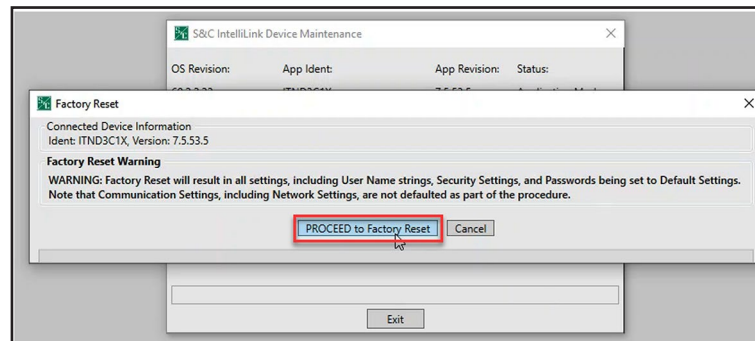

Figure 57. The Proceed to Factory Reset button.
STEP 5. Click on the **Proceed to Factory Reset** button when prompted. See Figure 57.